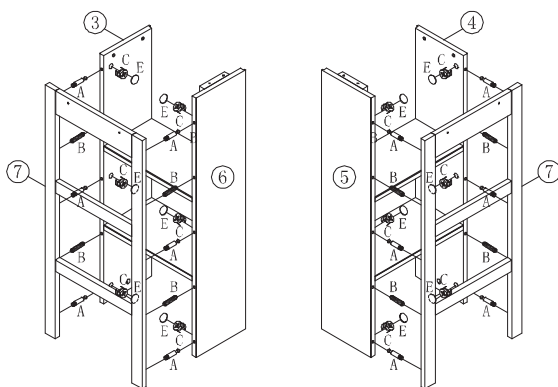

Figure 2
INSERT 12PCS CAM-BOLTS (A), 8PCS WOOD DOWELS (B) INTO PREDRILLED HOLES ON BACK OF FRONT FRAMES (7) AND FIT INTO CORRESPONDING HOLES ON FRONT EDGES OF LEFT AND RIGHT SIDES OF BOOKCASES (3,4,5,6). INSERT 12PCS CAM-LOCKS (C) INTO BIG HOLES ON INSIDES OF LEFT AND RIGHT SIDES OF BOOKCASES (3,4,5,6) WITH SLOT FOR SCREWDRIVER FACING OUTWARD. ROTATE CAM-LOCKS (C) CLOCKWISE TO SECURE CAM-BOLTS (A). PUSH COVERS (E) INTO CAM-LOCKS (C). AS FIGURE 2 SHOWN.